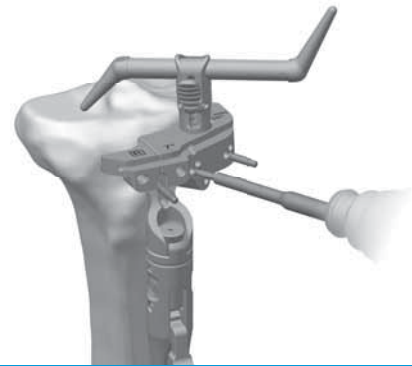

Fig. 27
- Insert a second trocar tipped pin through the other "0" hole in the cut guide with the Pin/Screw Inserter (**Fig. 27**). Remove the stylus by pushing the lever on the side of the stylus and remove.